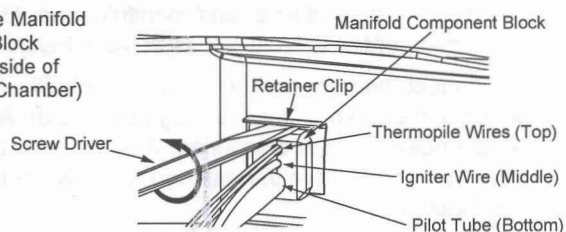

Figure 3
2. Connect the pilot tube to the pilot and tighten the nut securely. To prevent any bending, use a pair of pliers to steady the pilot bracket (See Figures 3 & 4).
3. Insert the burner assembly into the burner compartment, making sure that the burner assembly sits firmly against the burner bracket inside the combustion chamber (Figure 3).